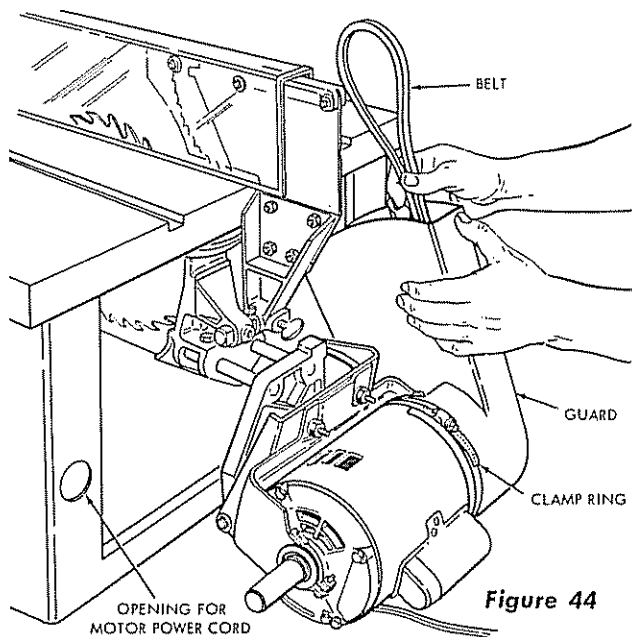

Figure 44
- c. Slide the guard on end of motor, while holding it as shown in figure 44, and slide the clamp ring over the edge of guard leaving edge of ring approximately 1/2-inch from edge of guard. Do not tighten the clamp ring at this time.
- d. Grasp the belt between thumb and forefinger as shown in figure 44 and, while looking down into the guard "hook" the lower loop of belt onto the motor pulley. Shift the guard on motor to center the belt in the guard.
- a. Feed the motor power cord through the large hole in saw base. (See figure 44.)